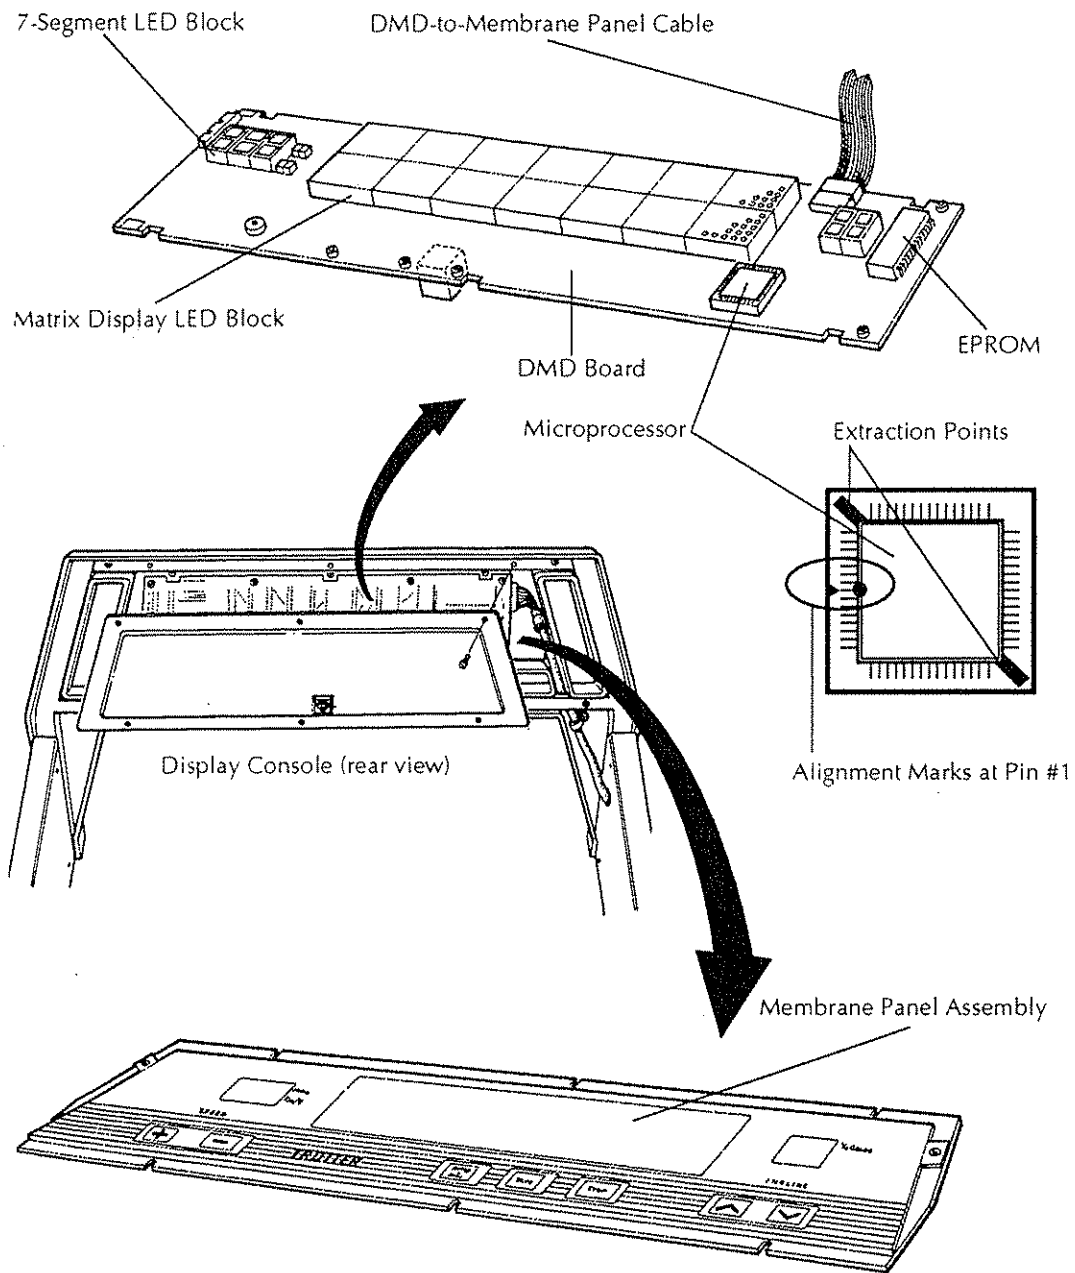

Figure 5-22: Replacing Display Console Components
6. *Gently* separate the DMD board and the membrane panel. Disconnect the DMD-to-membrane panel ribbon cable from the connector on the DMD board. See Figure 5-22.
2. Carefully remove the microprocessor from the DMD board, using the Plastic Leaded Chip Carrier (PLCC) extraction tool. See Figure 5-22.
CAUTION: *The microprocessor must be properly oriented with its mounting socket during installation. To orientate, align the "dot" engraved on the microprocessor with the arrow engraved on its mounting socket. See Figure 5-22.*
2. Carefully remove the EPROM from the DMD board, using an Integrated Circuit (IC) puller. See Figure 5-22.
2. Carefully remove the LED block, using a small flat-blade screwdriver, from the DMD board. See Figure 5-22.